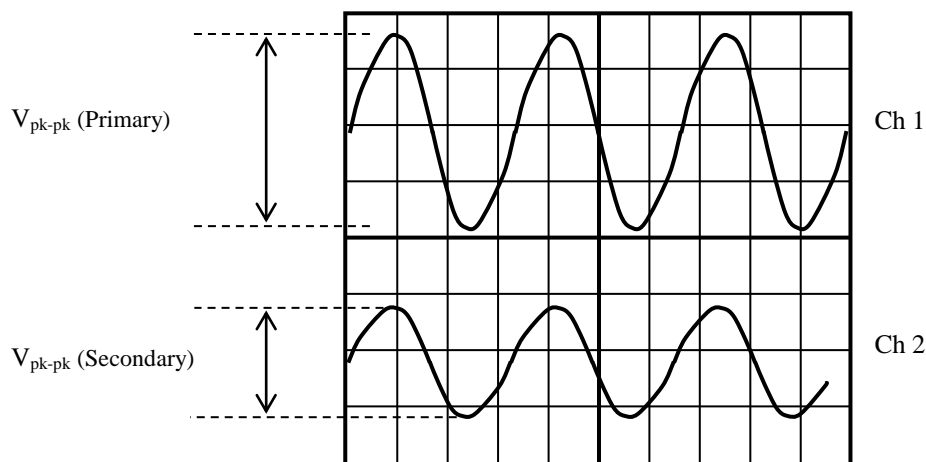

Figure 2 – Peak-to-Peak Measurement Reference
- Record the peak-to-peak voltage magnitudes of the primary coil (input) and the secondary coil (output) waveforms. Refer to Figure 2 for clarification, where V_{pk-pk} of the Primary coil is known as V_{in} and V_{pk-pk} of the Secondary Coils is known as V_{out} .
- Determine the GAIN in units of mV/V, by taking the ratio of the V_{out} (mV) / V_{in} (V)